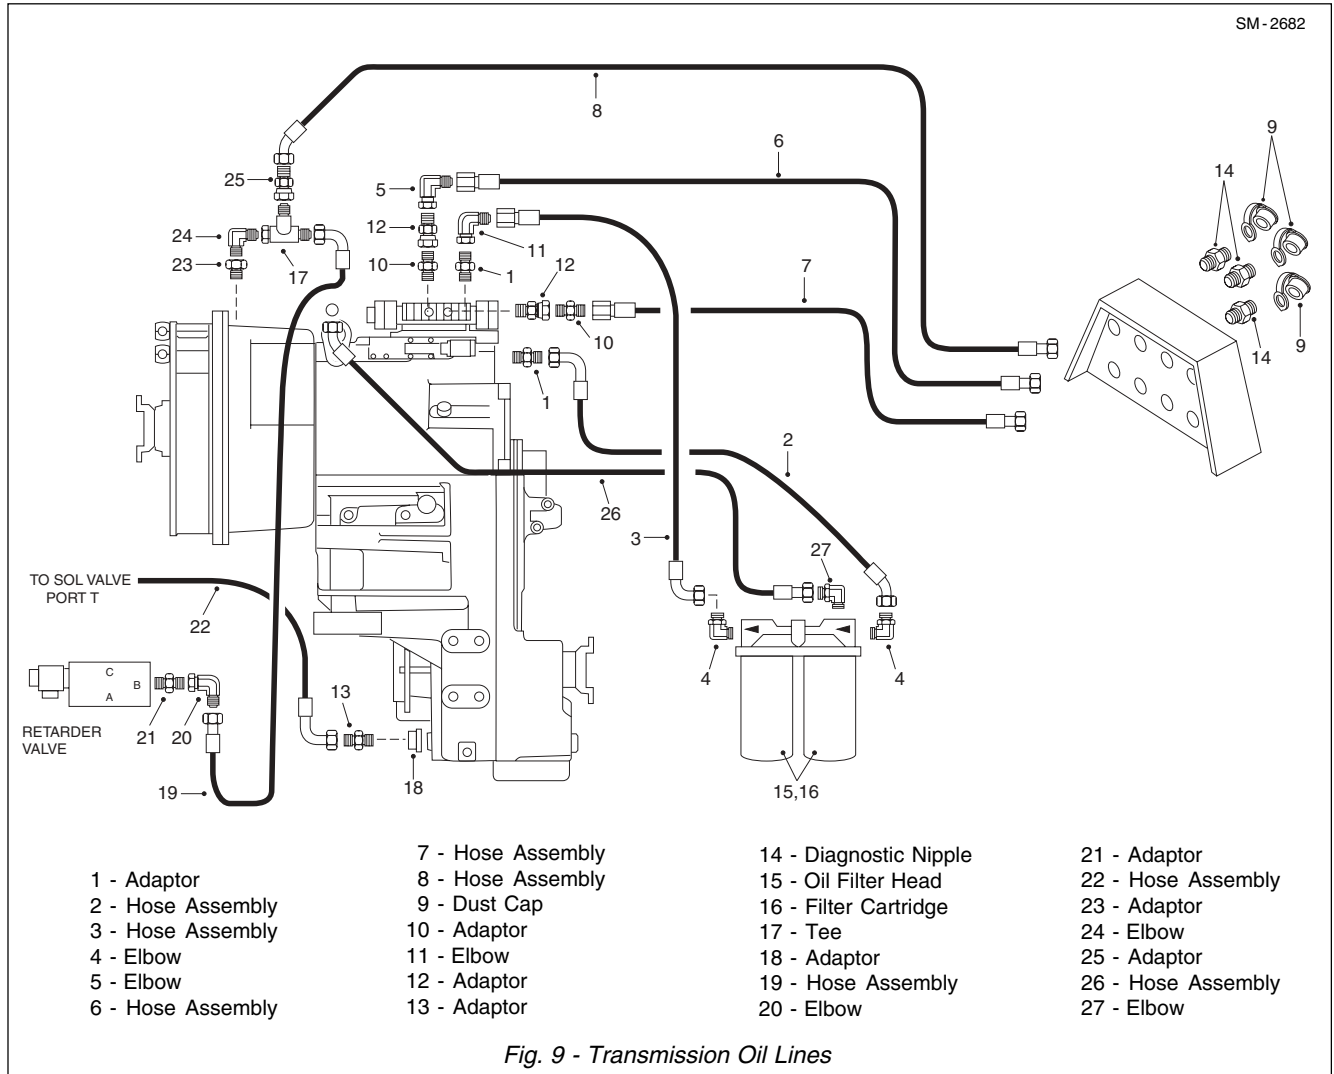

Fig. 9 - Transmission Oil Lines
14. Identify and tag oil filter hose assemblies (2, 3 & 26, Fig. 9) to aid installation. Disconnect hose assemblies (2, 3 & 26, Fig. 9) and cap open ends and adaptor (1, Fig. 9) and elbows (4, 11 & 27, Fig. 9) to prevent entry of dirt.
15. Identify and tag diagnostic hose assemblies (6, 7 & 8, Fig. 9) to aid in installation. Disconnect hose assemblies (6, 7 & 8, Fig. 9) and cap open ends and elbow (5, Fig. 9) and adaptors (10 & 26, Fig. 9) to prevent entry of dirt.
18. Remove locknut (5), hardened washer (14), bolt (6) and snubbing washer (3) securing LH bracket (7) to frame mounts.
19. Remove locknut (5), hardened washer (14), bolt (6) and snubbing washer (3) securing RH bracket (13) to frame mounts.
20. Remove locknuts (5), washers (4), snubbing washers (3) and bolts (6) securing front bracket assembly (1) to frame mounts.
7. Remove blanking cap from hose assembly (8, Fig. 9) and adaptor (26, Fig. 9) and connect hose assembly to the adaptor.
8. Remove blanking cap from hose assembly (7, Fig. 9) and adaptor (10, Fig. 9) and connect hose assembly to the adaptor.
9. Remove blanking cap from hose assembly (6, Fig. 9) and elbow (5, Fig. 9) and connect hose assembly to the elbow.
10. Remove blanking caps from hose assemblies (2, 3 & 26, Fig. 9), elbows (4, 11 & 27, Fig. 9) and adaptor (1, Fig. 9) and connect hose assemblies to the elbow and adaptors.
12. Remove blanking caps and connect lines to retarder solenoid, differential lock solenoid and pressure reducing valve mounted on front bracket assembly (1), as identified at removal.